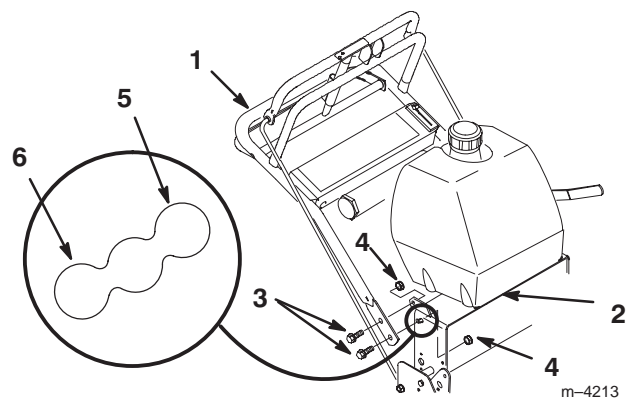

Figure 2
1. Position handle outside frame and align upper handle mounting holes. Select desired mounting holes for high, medium or low position according to operators height (Fig. 2).
2. Secure each side with (2) 3/8–16 x 1" (26mm) bolts and (2) 3/8–16 locknuts (Fig. 2).